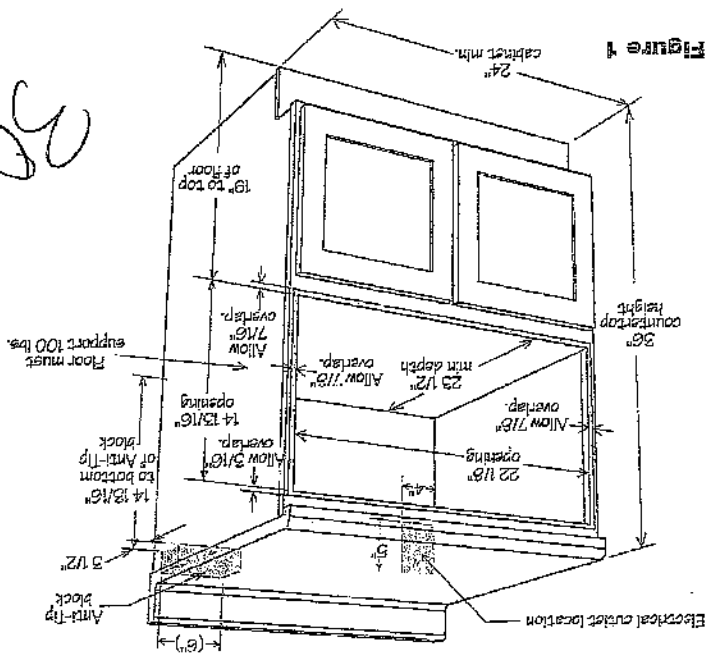

Figure 1
- Dimensions that are shown in Figure 1 (for 24") or Figures 3 and 4 (for 30") must be used. Given dimensions provide minimum clearance. Locate electrical outlet in the shaded area in the upper left-hand corner of the cutout. See Figure 7.
Figures 1 and 2 contain many Microwave Drawer measurements for reference when planning the drawer's location.